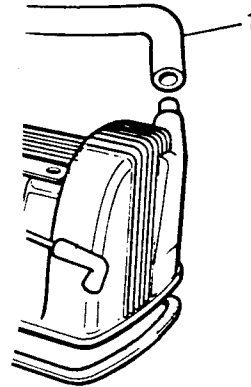

Fig B4.64
- (7) Refer to Fig B4.64. Disconnect the engine breather hose (1) from the cam cover.
(14) Connect the engine breather hose to the cam cover (Fig B4.64).